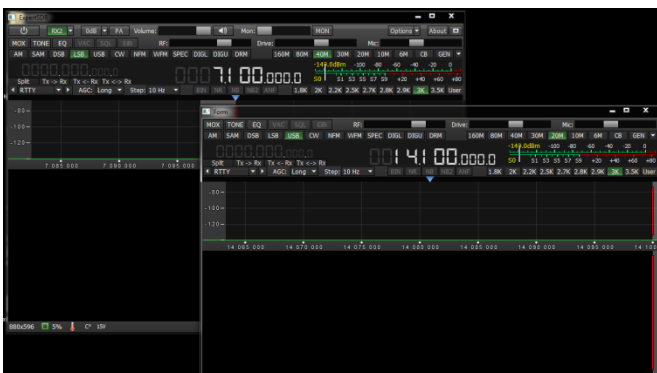

Figure 8.17 – Two independent receivers' windows
- In Figure 8.17 there is two receivers configuration when each of them is in their own window and can be moved easily along the screen.